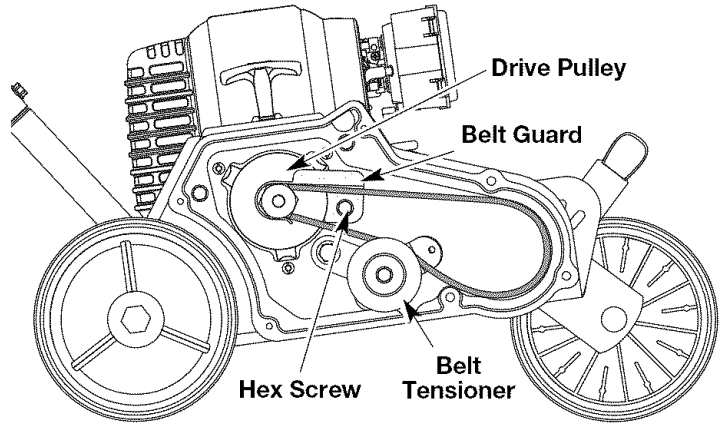

Fig. 39
7. Using a 3/8-inch wrench, remove the screw holding the belt guard to the unit chassis (Fig. 39).
10. Place the belt guard and belt over the drive pulley (Fig. 39). Make sure the bottom of the belt rests on the belt tensioner (Fig. 39).
16. Insert the blade assembly into the belt housing. Make sure that the bottom of the belt rests on the belt tensioner (Fig. 39).